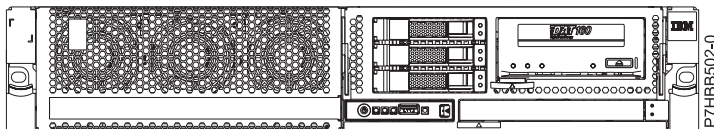

Figure 2. Disk drive backplane with tape
11. Remove the media device by pressing up and then pulling the latch (A) to slide the media device out of the system. See figure 2 or 3 based on the configuration of your system.